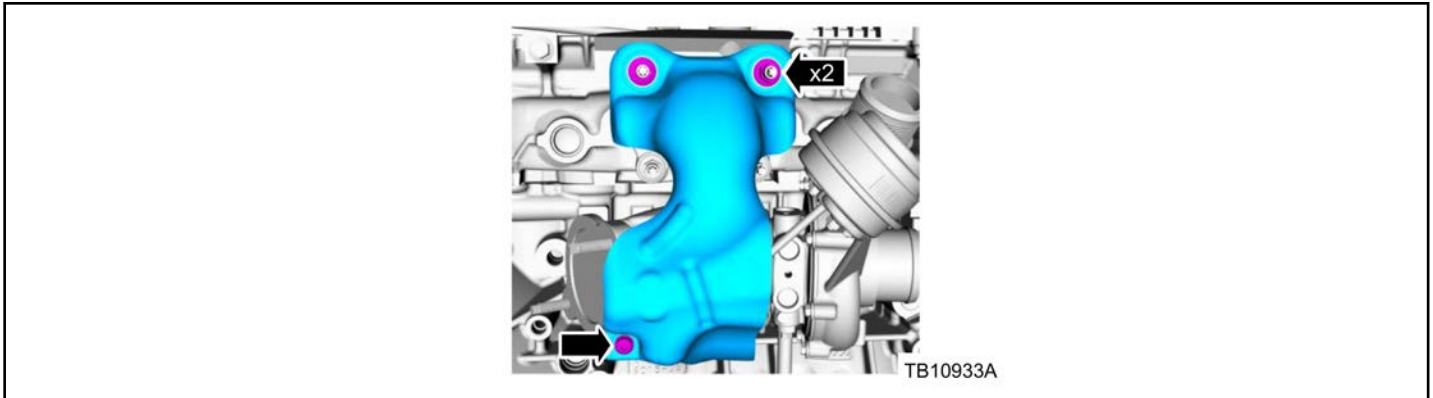

Figure 2 - Article 16-0123
5. Remove and discard the upper turbocharger mounting nuts and studs. (Figure 2)
8. Remove the lower turbocharger heat shield retaining bolt. (Figure 2)